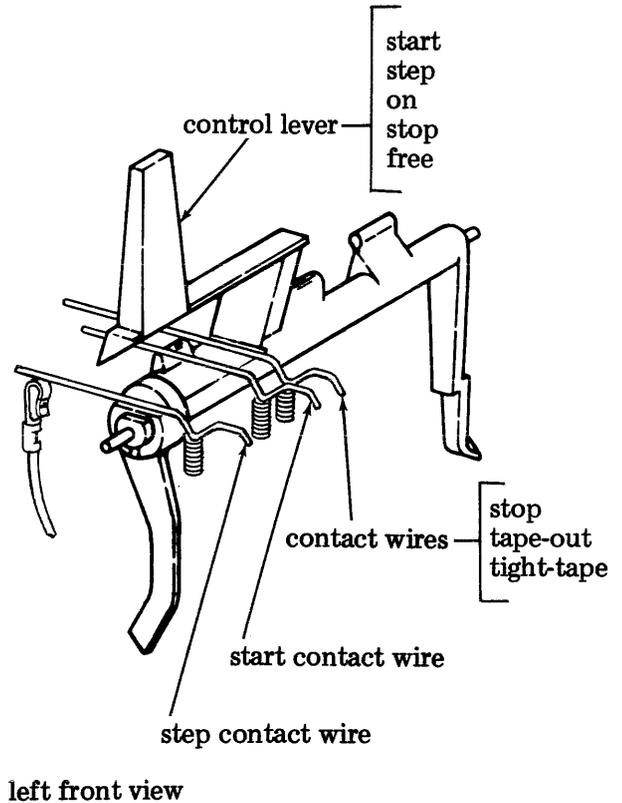
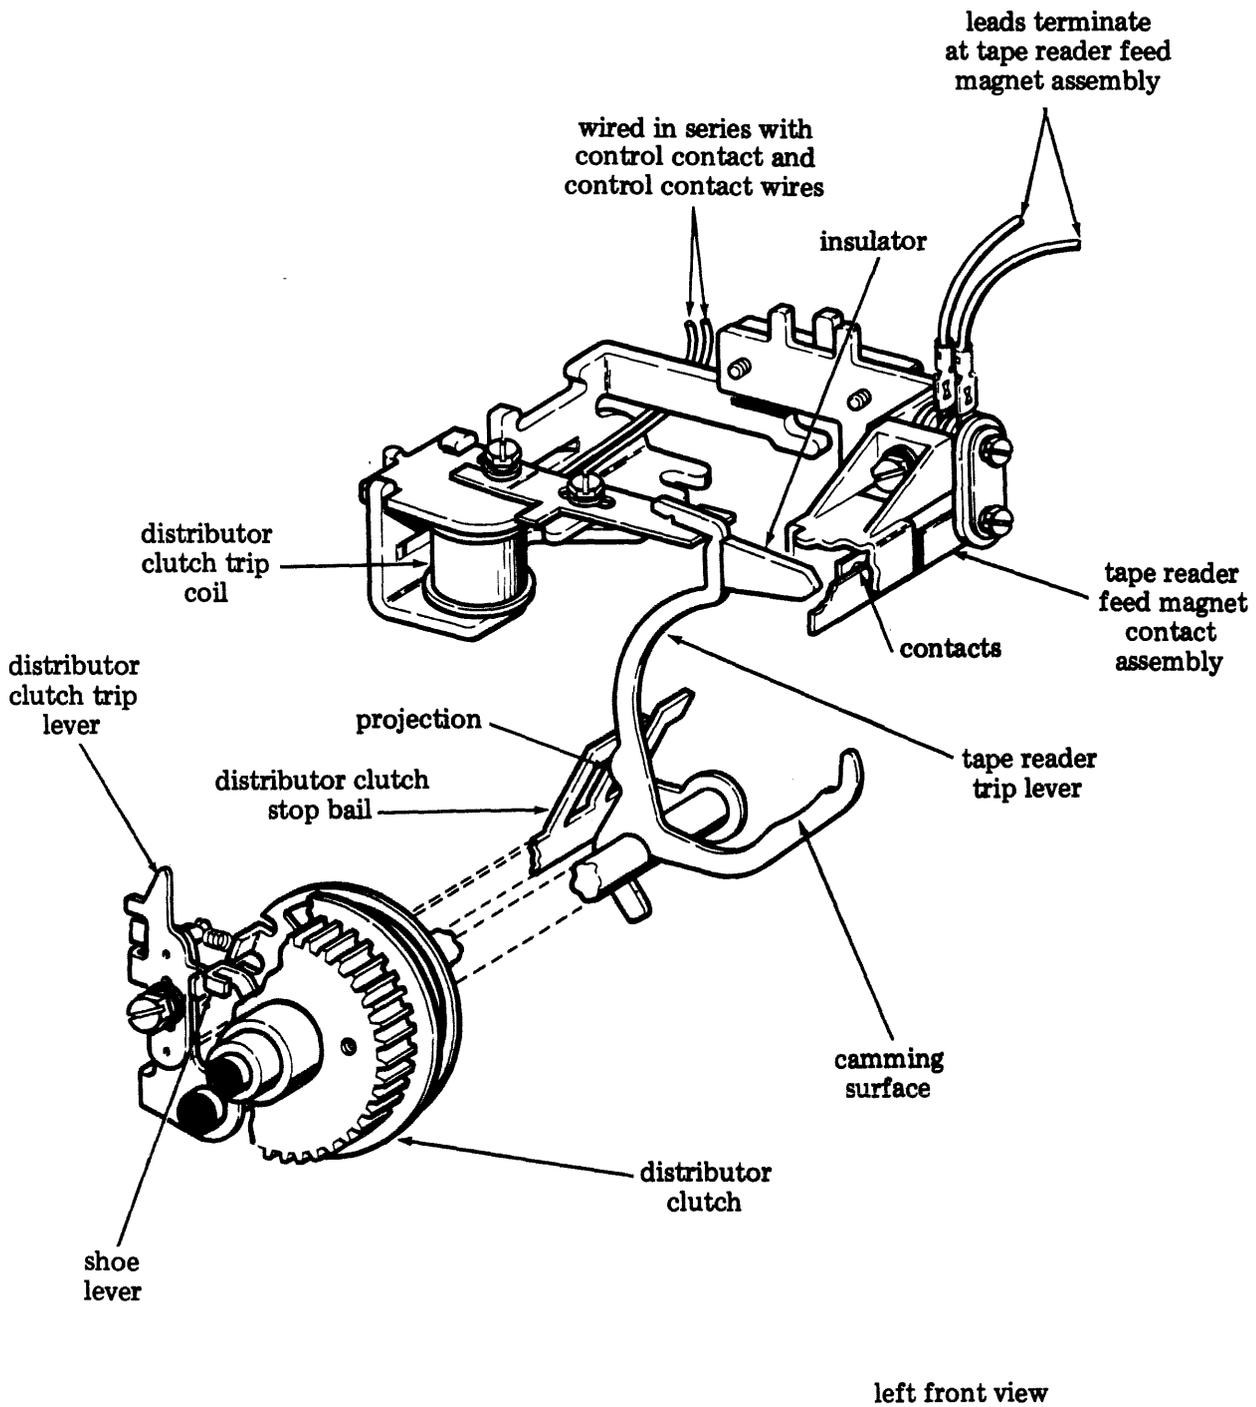

Figure 3 - Control Mechanism
Figure 4 - Distributor Trip Mechanism
3.06 There are five positions in the control mechanism (Figure 3): START, STEP, ON, STOP, and FREE. When the control lever is moved to the START position, the spring-biased start contact wires will be positioned on the start contact. Since the start contact wires and the start contact are wired in series with the distributor clutch trip coil in the typing unit, the coil energizes and releases the tape reader trip lever (Figure 4).
3.07 When the tape reader trip lever is released, it performs two functions; it closes the tape reader feed magnet contact assembly and it trips the distributor clutch (Figure 4).